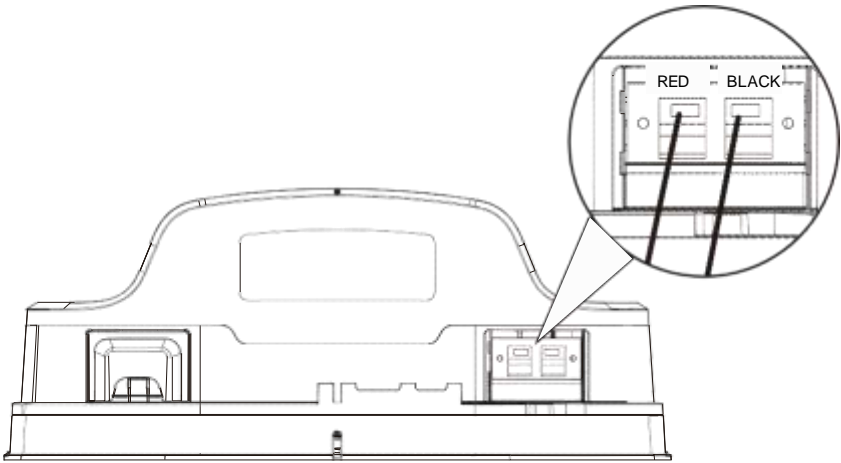

Fig.19
4.4.2 Connect the charging station with the boundary wire(Fig.19)